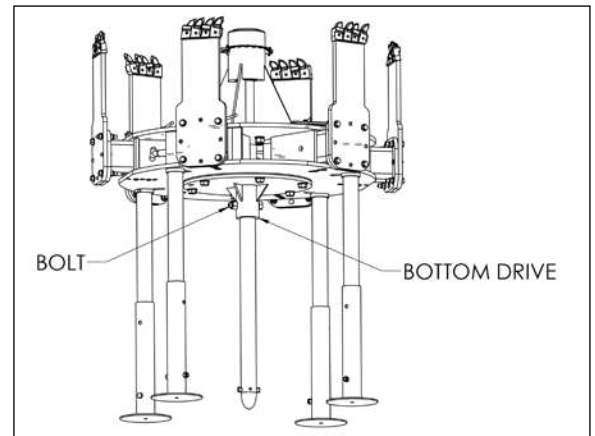

Figure 13. Inserting Guide Shaft into Bottom Drive
10. Remove the bolt from one end of the Bottom Drive. Insert the Guide Shaft into the Bottom Drive of the Cutter being careful to line up the hole in the Guide Shaft with the hole in the Bottom Drive. See Figure 13.